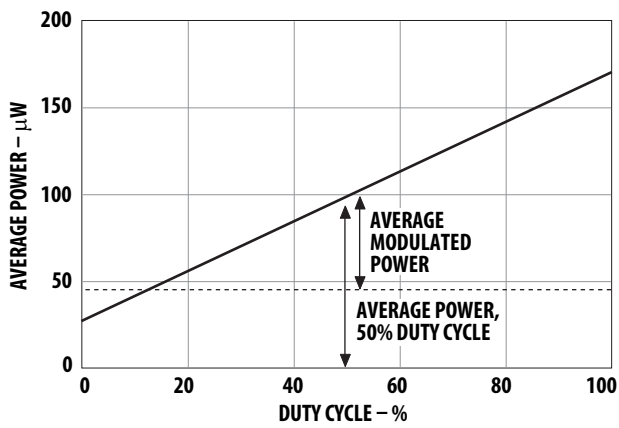

Figure 3. Average modulated power
| Average Optical Power 1 mm POF | P _{avg} | -9.7 | dBm | 50% Duty Cycle | Note 1, Fig 3 |
| Average Modulated Power 1 mm POF | P _{mod} | -11.3 | dBm | | Note 2, Fig 3 |
| Average Optical Power 200 μm HCS | P _{avg} | -14.6 | dBm | 50% Duty Cycle | Note 1, Fig 3 |
| Average Modulated Power 200 μm HCS | P _{mod} | -16.2 | dBm | | Note 2, Fig 3 |
2. To allow the LED to switch at high speeds, the recommended drive circuit modulates LED light output between two non-zero power levels. The modulated (useful) power is the difference between the high and low level of light output power (transmitted) or input power (received), which can be measured with an average power meter as a function of duty cycle (see Figure 3). Average Modulated Power is defined as one half the slope of the average power versus duty cycle: